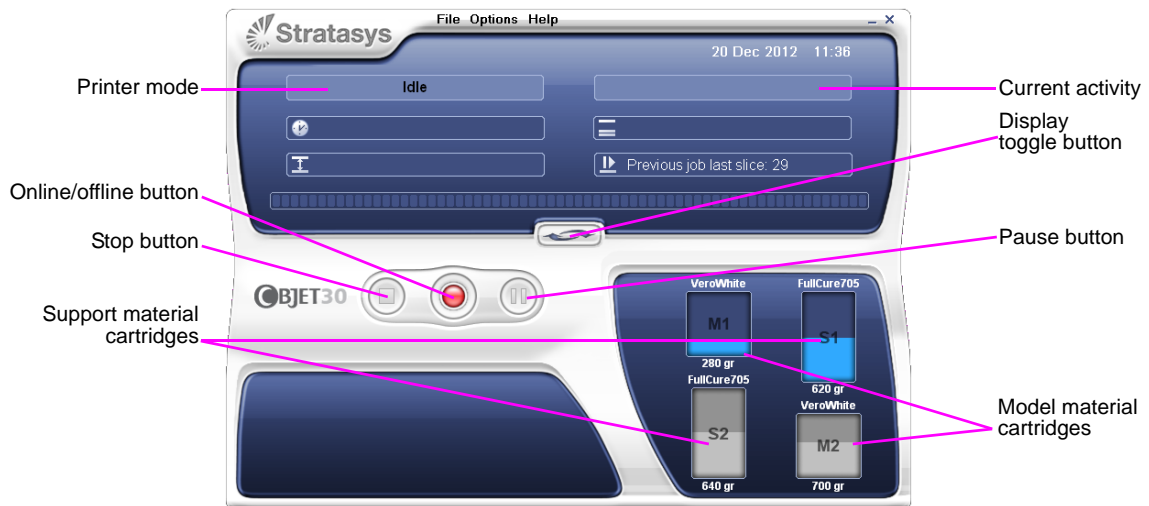

Figure 6-3: Objet30 interface
The Objet printer interface screen opens (see figure 6-3). All monitoring and controlling of the printer is done from this interface.
Objet30 printers use two cartridges of model material and two cartridges of support material, each weighing one kilogram when full. A graphical representation of the cartridges loaded and their current weight appears in the printer interface (see figure 6-3).
5. Check the printer interface to make sure that the new cartridge is detected and that its weight is displayed (see figure 6-3).
2. Make sure that there is sufficient model and support material loaded, as indicated in the printer interface (see figure 6-3). You may want to replace the cartridges of model and support material currently loaded in the printer to avoid the need for replacing them during printing.
1. If the printer is in offline mode, switch it to online mode by clicking the red button at the bottom of the printer interface (see figure 6-3 on page 3).